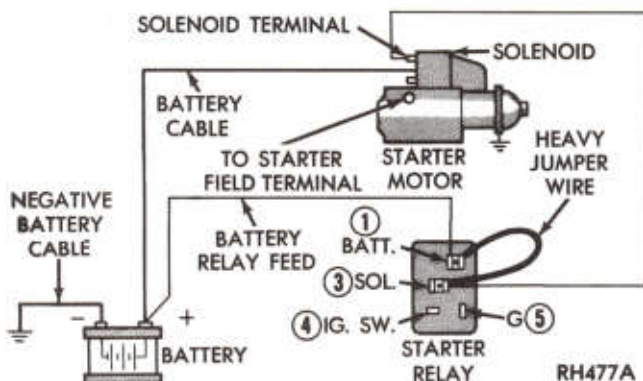

Fig. 3—Starter Solenoid Test (Typical)
Connect a heavy jumper wire on starter relay between battery (1) and solenoid (3) terminals (Fig. 3). If engine cranks starter solenoid is good. Proceed to starter relay test.